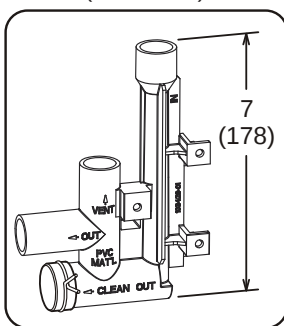

Figure 38. Trap / Drain Assembly Using 1/2" PVC or 3/4" PVC
3. Install the cap over the clean out opening at the base of the trap. Secure with clamp. See Figure 38.